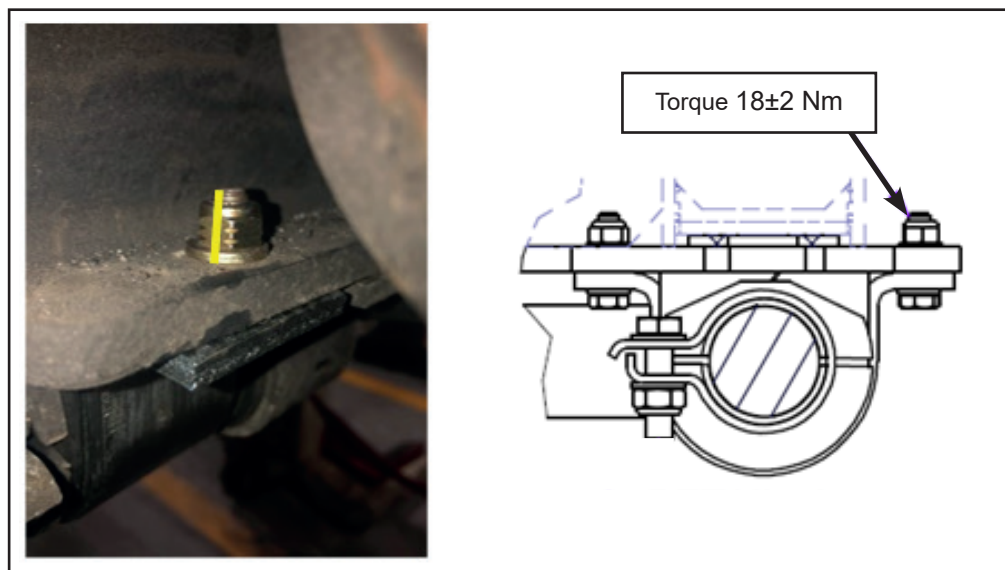

Figure 31 - Locknuts Tightening Torque
- 1.59. Torque locknuts to  $18 \pm 2$  Nm and torque seal (See Figure 31).